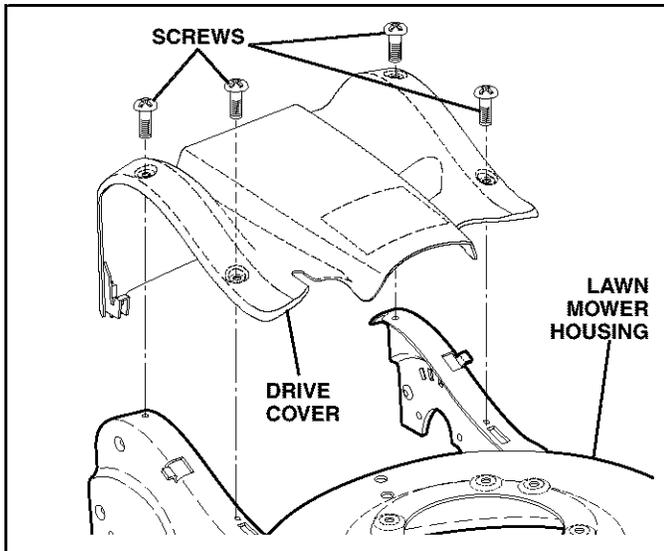

FIG. 18
## TO REMOVE DRIVE BELT (See Figs. 18 thru 21)
2. Remove screws retaining drive cover and remove drive cover from lawn mower housing (See Fig. 18).
## TO REPLACE DRIVE BELT (See Figs. 18–21)
11. Reattach drive cover with screws previously removed (See Fig. 18).